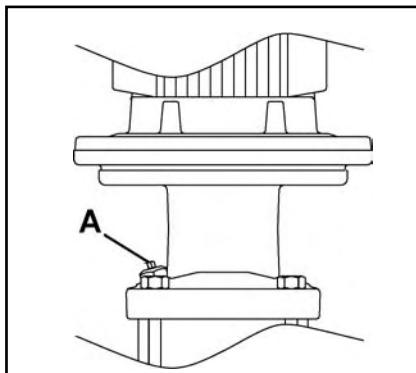

Fig. 6
1. Loosen the drain plug (A, Fig. 6) one or two turns until water and air come out.